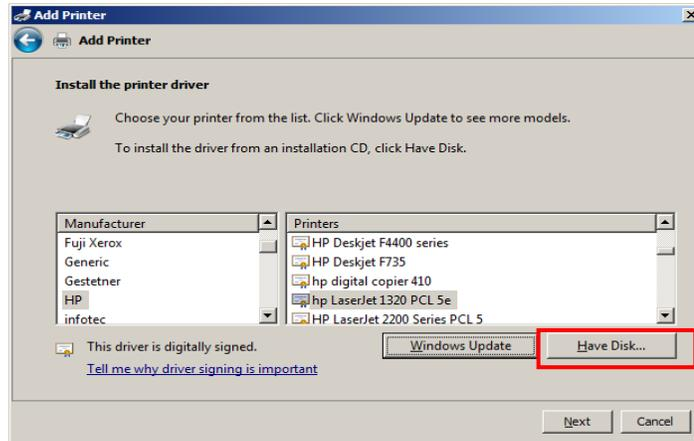

Figure 10-22 - Add Printer
- 8) On the Add Printer dialogue box shown below (Figure 10-22) select the “**Have Disk**” option and point it to where you saved the printer drivers on your USB drive.
- 17) If windows was unable to automatically select the proper driver to use you will be presented with the same screen as shown in Figure 10-22 and you will need to click "**Have Disk**" and specify a location where you have the printer driver saved.